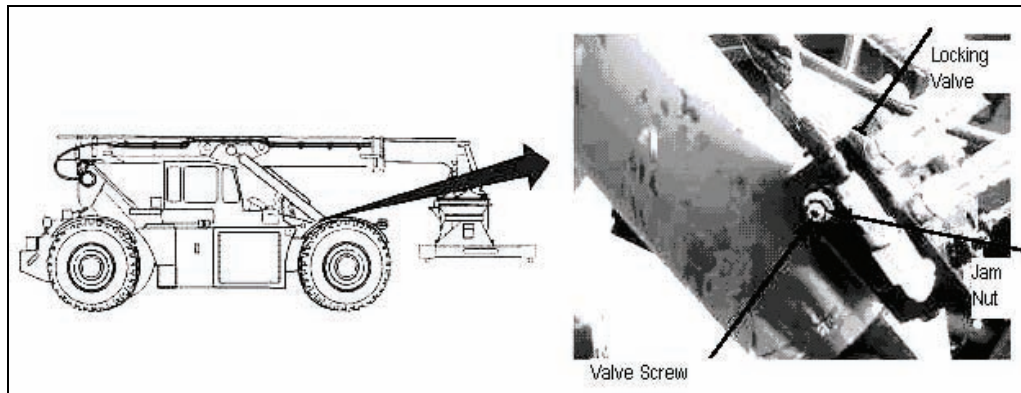

Figure 3-152. Turning Float Valve Screw
- o. At side of locking valve at base of each lift cylinder, loosen float valve jam nut and turn float valve screw five turns counterclockwise and retighten jam nut to prevent loss (see Figure 3-152).